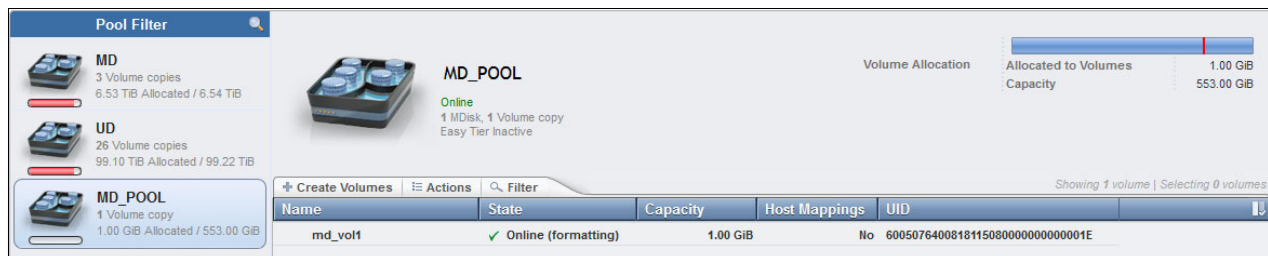

Figure 9-7 Listing volumes
- You can also see the volumes that are created by using the GUI and going to the Volumes menu (Figure 9-7).